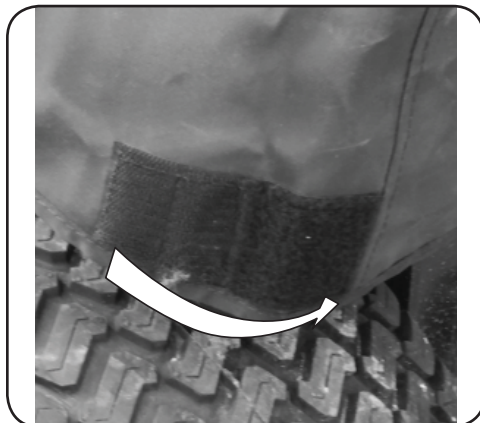

Figure 3-18
- Secure the two velcro tabs on the back corners of the snow cab to ensure a tight fit. See Figure 3-18.